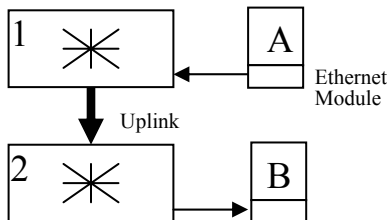

Figure RA-3: Uplink load
But merely adding another switch can create congestion on the uplink (Figure RA-3). Rockwell Automation gives the example of a 10-port switch (1) connected to another switch (2), so controller A on switch 1 can send multicast to controller B on switch 2.